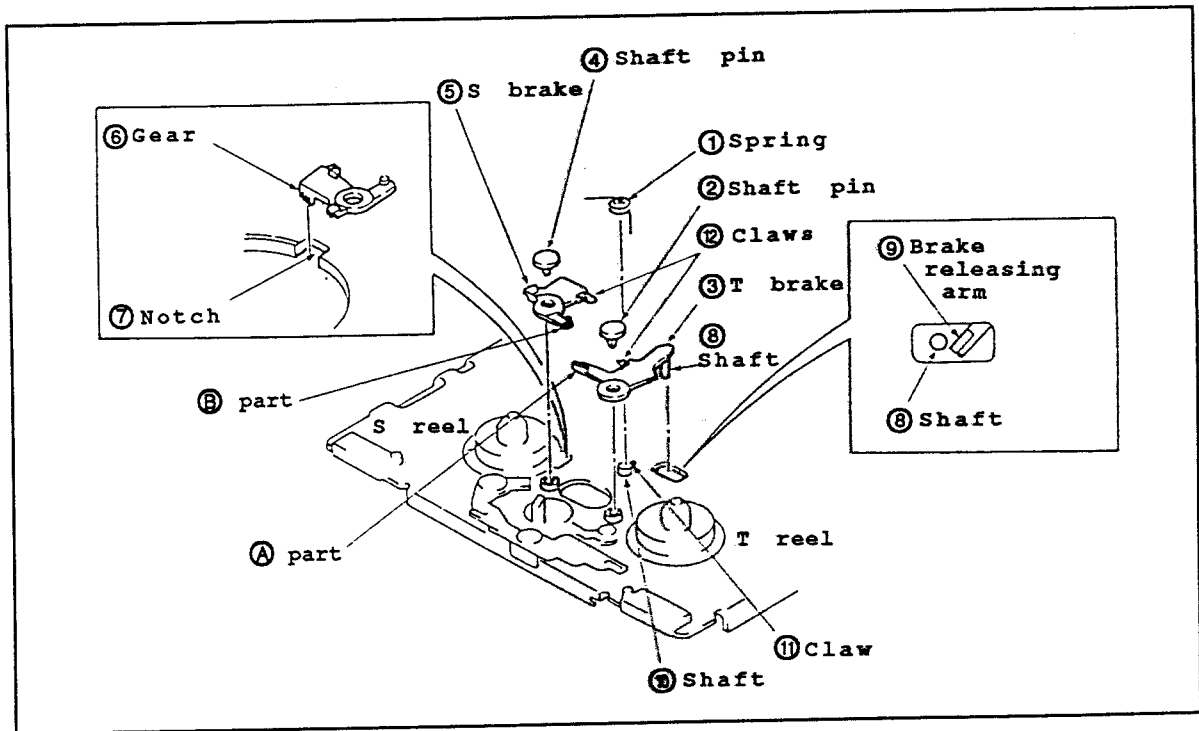
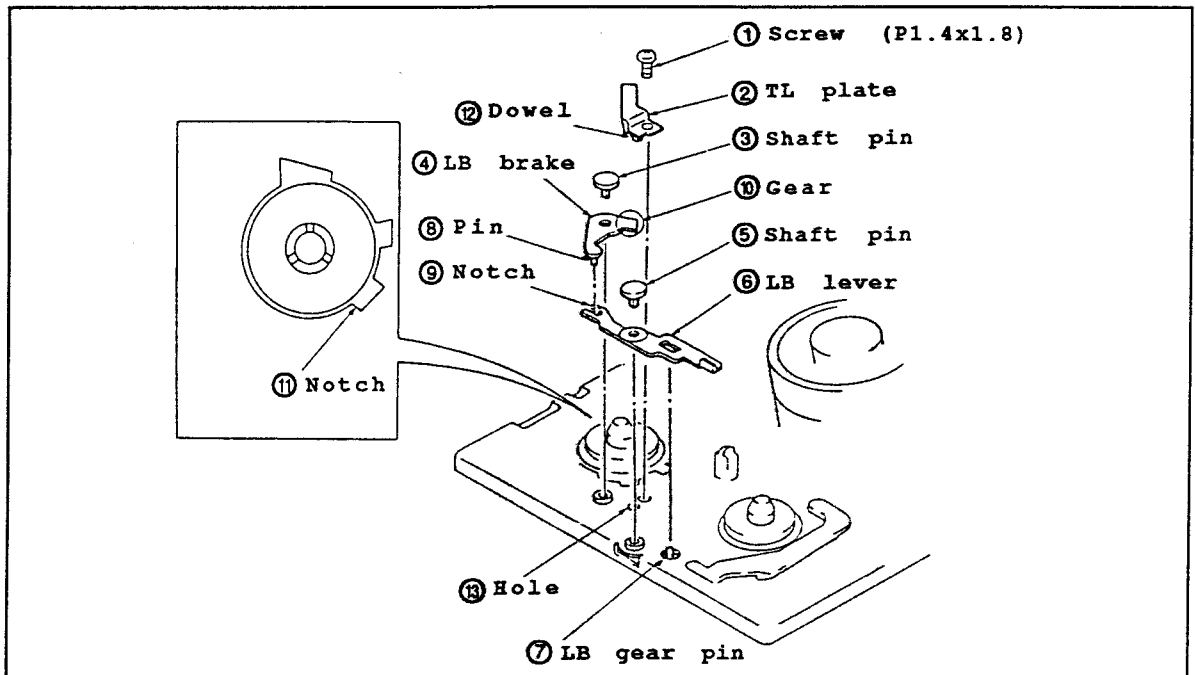

Fig.II-10
Fig.II-11
• Disassembling (Fig.II-10)
- (1) Remove the spring ①.
- (2) To take out the T brake ③, remove the shaft pin ②.
- (3) To take out the S brake ⑤, remove the shaft pin ④.
*Note: If the claw part of shaft pin ② and ④ damaged, replace them.
• Reassembling (Fig.II-10)
- (1) Install the S brake ⑤ while inserting the gear ⑥ into the notch ⑦.
- (2) Attach the shaft pin ④.
- (3) To install T brake ③, put the shaft ⑧ of T brake ③ into the S reel side comparing the brake releasing arm ⑨. At this time, part ⑩ must be at the drum side comparing part ⑪.
- (4) Attach the shaft pin ②.
- (5) Insert the spring ① under the claw ⑪ of shaft ⑩. Hook the spring ① on the claws ⑫, respectively.
- Disassembling (Fig.II-10)
- (1) To take off the TL plate ②, remove the screw ①.
- (2) To take off the LB brake ④, remove the shaft pin ③.
- (3) To take off the LB lever ⑥, remove the shaft pin ⑤.
*Note: If the claw part of shaft pin ③ and ⑤ damaged, replace them.
- Reassembling (Fig.II-11)
- (1) Assemble the LB lever ⑥ while inserting the LB gear pin ⑦ to the hole of LB lever ⑥. Then, secure it with the shaft pin ⑤.
- (2) Assemble the LB brake ④ while inserting the pin ⑧ to the notch ⑨ of LB lever ⑥ and the gear ⑩ to the notch ⑪.
- (3) Install the shaft pin ③.
- (4) Assemble TL plate ② while aligning the dowel ⑫ and the hole ⑬. Then, secure it with the screw ①.